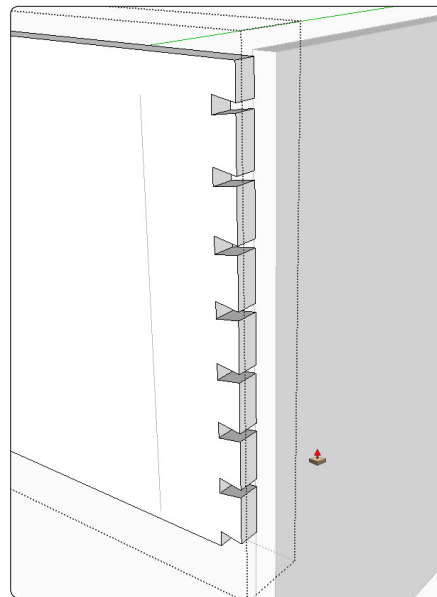

Figure 30. This is how the completed tails should look on the front component.
Step 9 Use the Push/Pull Tool to push out waste from the other pin locations. Once you've pushed one and clicked on the back edge, use this shortcut to clear waste from the rest: Double-click with the Push/Pull Tool on the remaining pin locations. You should now have a front component that looks like the one shown in Figure 30.